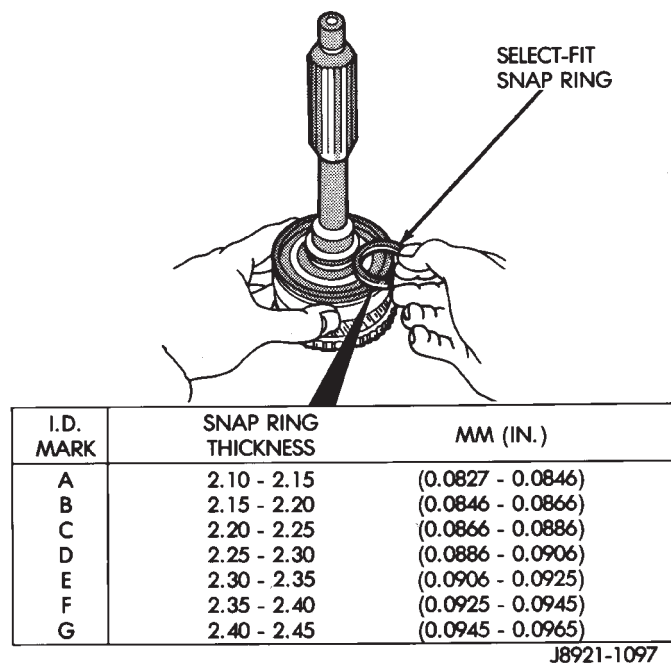

Fig. 70 Selecting Input Shaft Front Bearing Snap Ring
(1) Press front bearing on input shaft. Then secure bearing with thickest snap ring that will fit in shaft groove (Fig. 70).